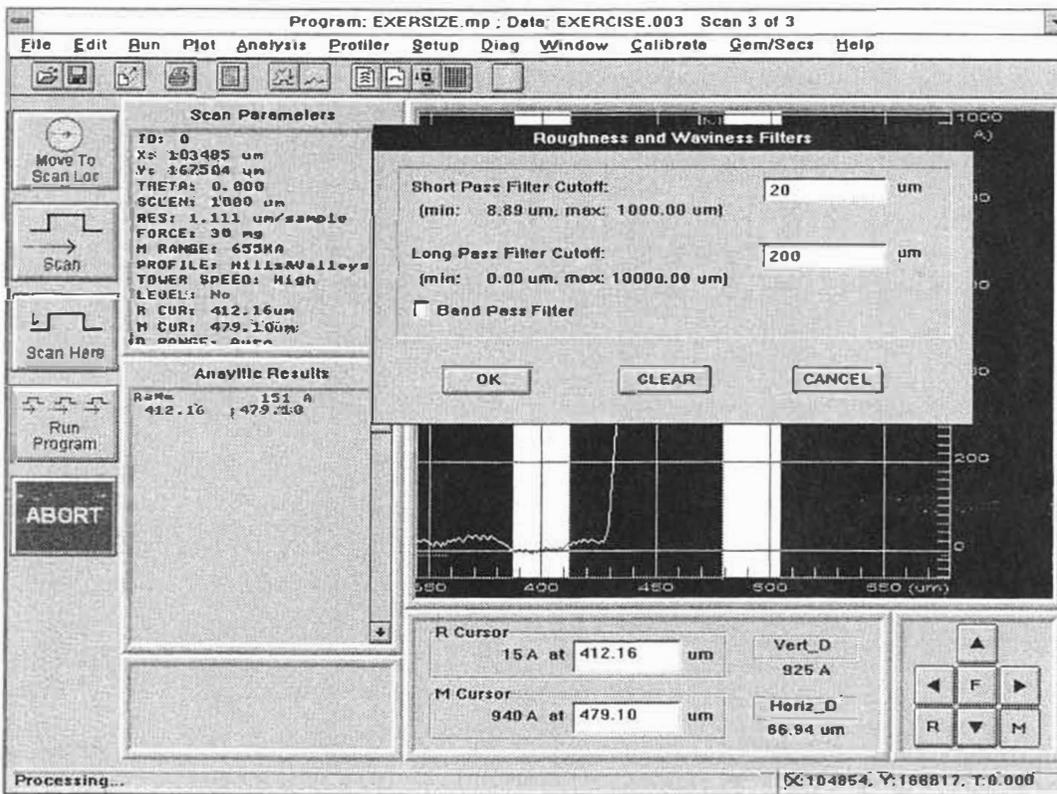

Figure 6-3. Roughness and Waviness Filter Dialog Box
1. Click-on "Analysis" from the menu bar and click-on "Analytical Functions" to display the dialogue box below (see Figure 6-3).